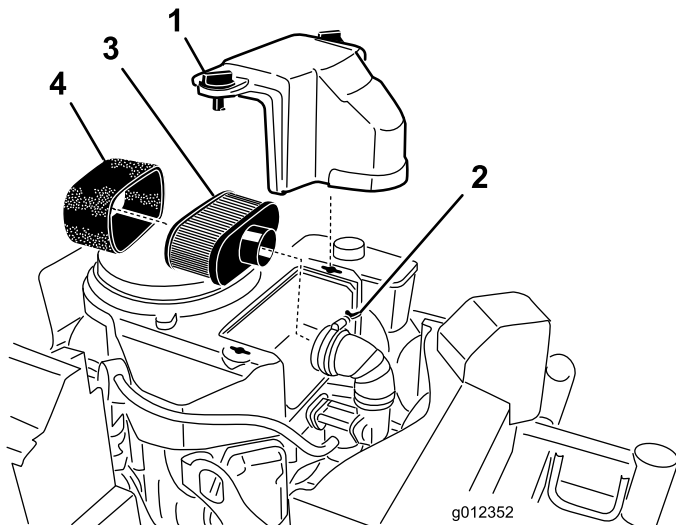

Figure 41
3. Clean around the air cleaner to prevent dirt from getting into the engine and causing damage (Figure 41).
4. Unscrew the cover knobs and remove the air-cleaner cover (Figure 41).
5. Unscrew the hose clamp and remove the air-cleaner assembly (Figure 41).
6. Carefully pull the foam element off the paper element (Figure 41).
2. Replace the paper element if it is damaged (Figure 41).
1. Carefully slide the foam element onto the paper air-cleaner element (Figure 41).
2. Place the air-cleaner assembly onto the air-cleaner base or hose and secure it (Figure 41).
3. Place the air-cleaner cover into position and tighten the cover knob (Figure 41).